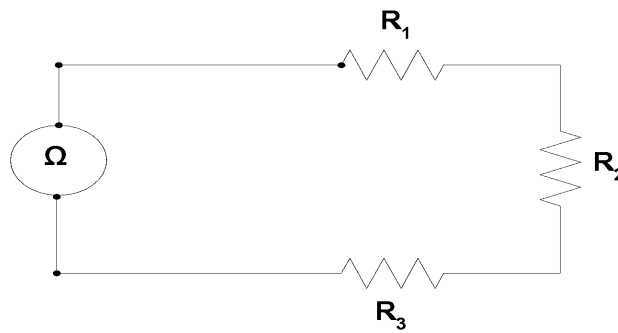

Figure 3.1. Series-Connected Resistors
- 1.2 Connect the three (3) resistors at different resistances based on Figure 3.1.
- 1.3 Measure and record the cold resistance of each resistor and the equivalent resistance on Table 3.1 based on Figure 3.1.